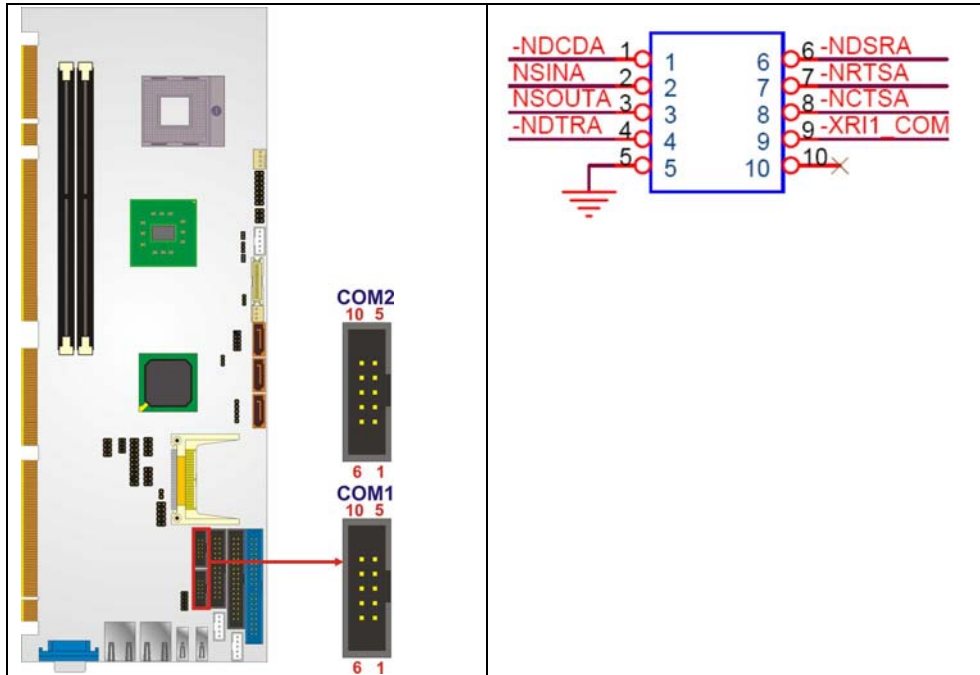

Figure 4-18: COM Connector Pinout Locations
- CN Location:** See **Figure 4-18**